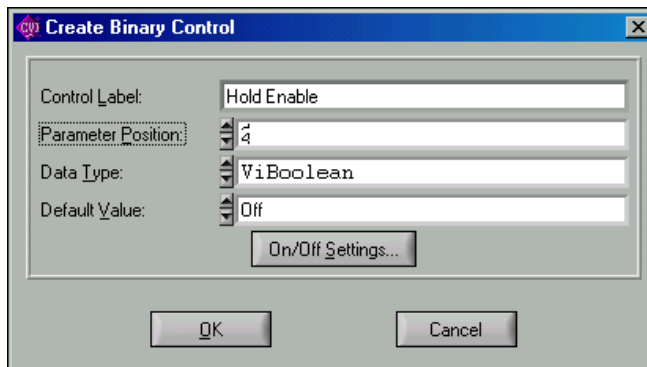

Figure 5-18. Create Binary Control Dialog Box
- b. Complete the Create Binary Control and Edit On/Off Settings dialog boxes as shown in Figures 5-18 and 5-19.